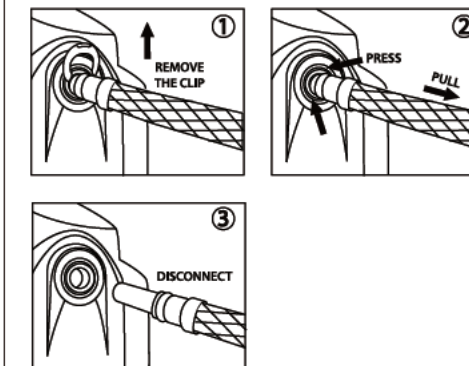

Figure 4.
**Step 3:** Take out the hoses from the package. US15 Series come with a cap with  $\frac{3}{8}$ " quick fitting on each side. Please refer to Figure 4. on how to connect & disconnect quick fittings. Install the inlet hose with a  $\frac{1}{2}$ " female thread to the fitting on the left side of the system (marked with "In"), then install the outlet hose to the right side (marked with "Out"). The Inlet hose should be connected to the angle valve, while the outlet hose goes to the cold water line previously removed from the angle valve.